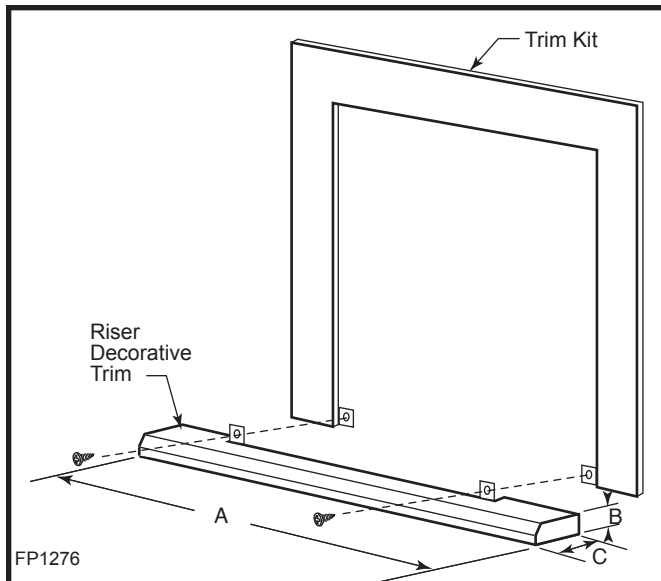

Fig. 37 RHEBSL, RHEBXL trim kit.
3. Remove the two (2) screws at the bottom of the trim.
4. Install the riser at the bottom of the trim. (Fig. 37)
5. Fasten the trim with the same two (2) screws removed in Step 3.